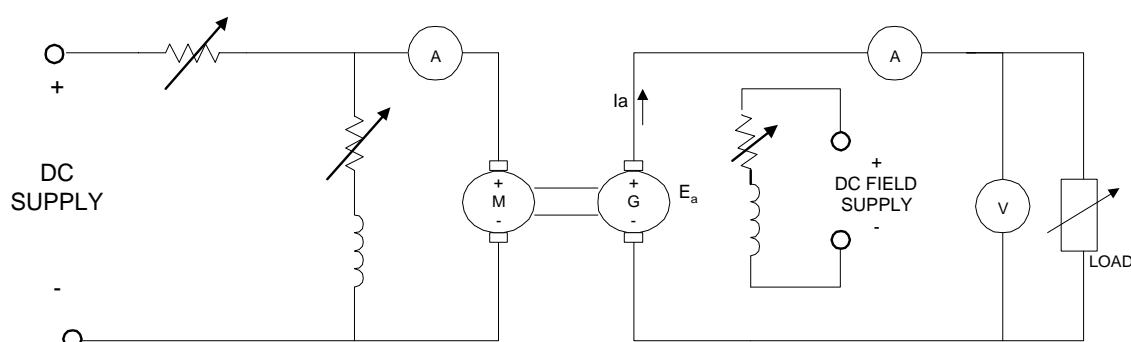

Fig.1: The Shunt Motor Generator Connection
2. Connect the circuit as shown in fig.1